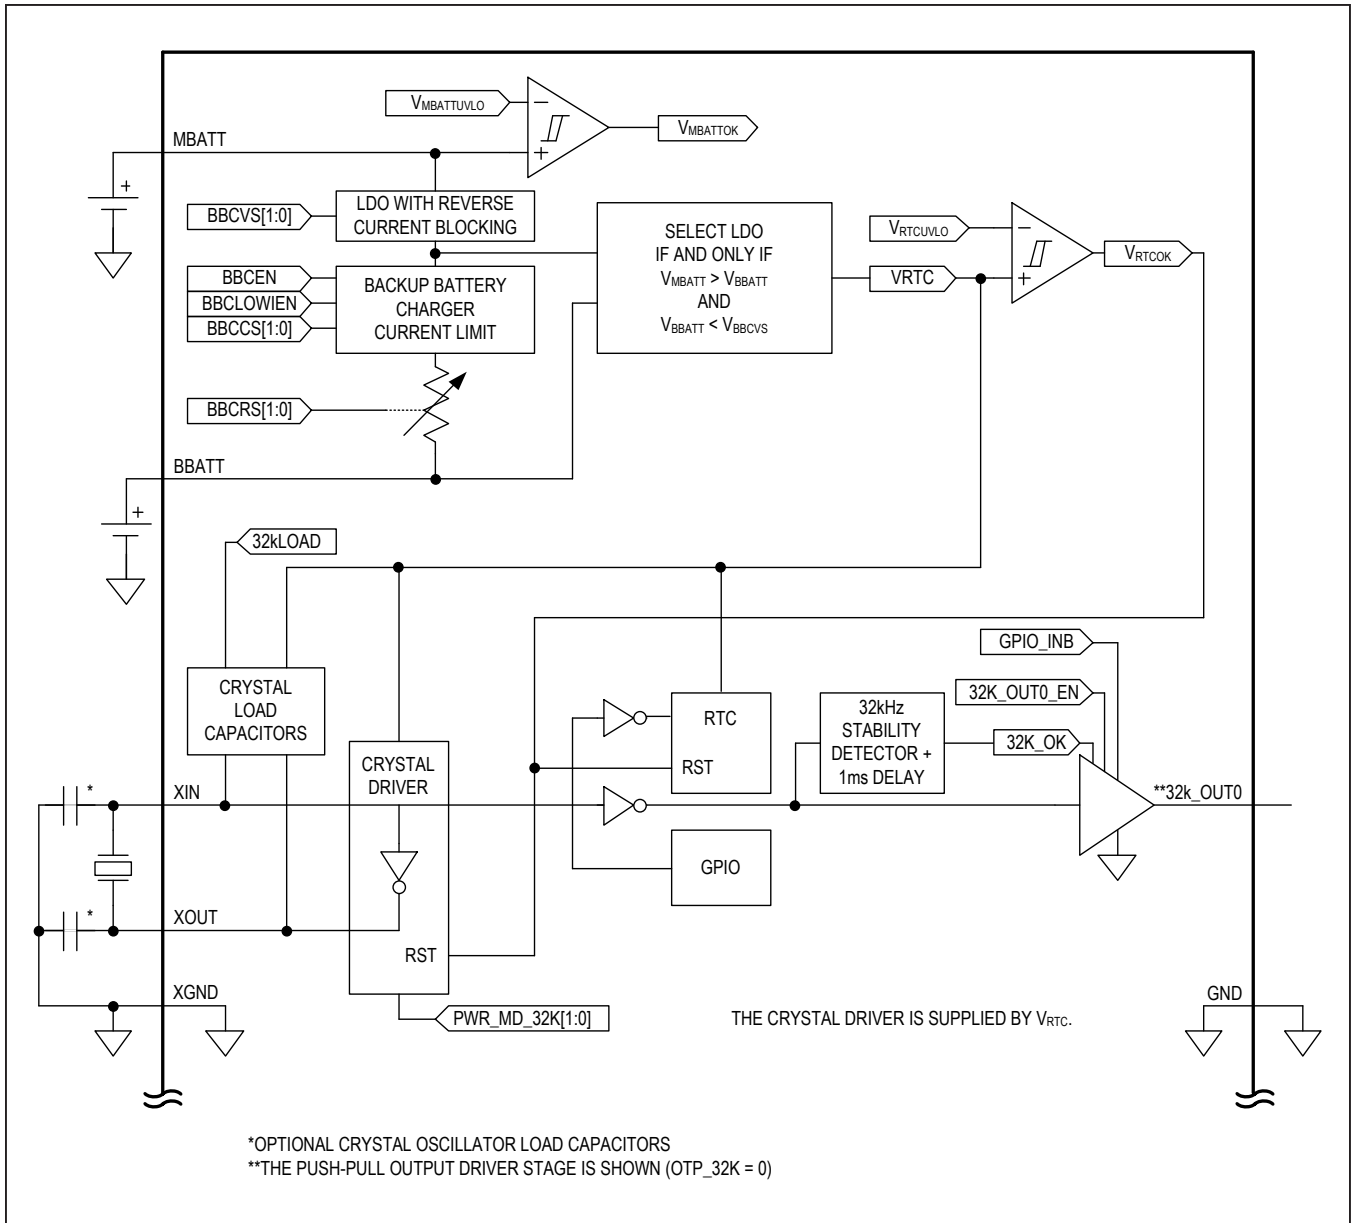

Figure 14. Backup Battery Charger, 32kHz Crystal Oscillator and RTC
The IC contains a crystal oscillator driver with internal load capacitance selectable by 32KLOAD[1:0] (Figure 14). PWR_MD_32K controls whether the crystal driver is in low-power mode or low-jitter mode. In low-power mode, the oscillator quiescent current is 1.5 μ A and in low-jitter mode the cycle-by-cycle jitter is 15ns. The crystal driver is supplied from the internal V_{RTC} node which is equal to V_{MBATT} if V_{MBATT} > V_{MBATTUVLO}.
The backup battery charger is a constant voltage (CV) and constant current (CC) style charger with a series output resistance as shown in Figure 14. The backup battery charger is enabled and disabled with BBCEN. The charge current, charger voltage, output current, and output resistance are adjustable with the BBCCTRL register. The backup-battery charger is suitable for the following types of backup cells: